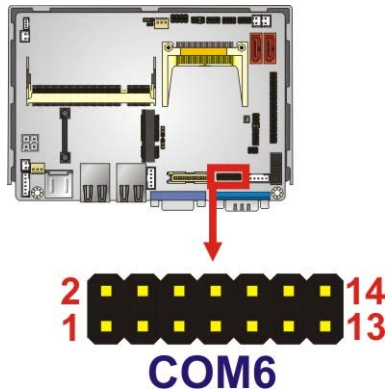

Figure 3-11: RS-232/422/485 Serial Port Connector Location
- CN Location:** See **Figure 3-11**